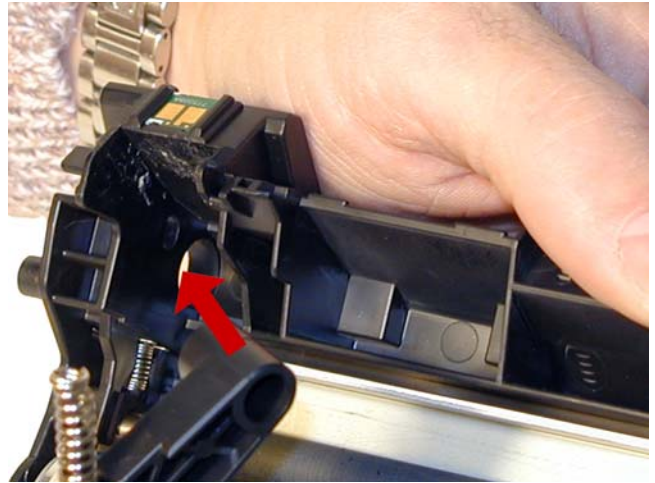

Figure 34
26) Place the drum/waste hopper into the toner hopper. Slide it over so the round hinge pins fit into their respective holes. See **Figures 34 & 35**